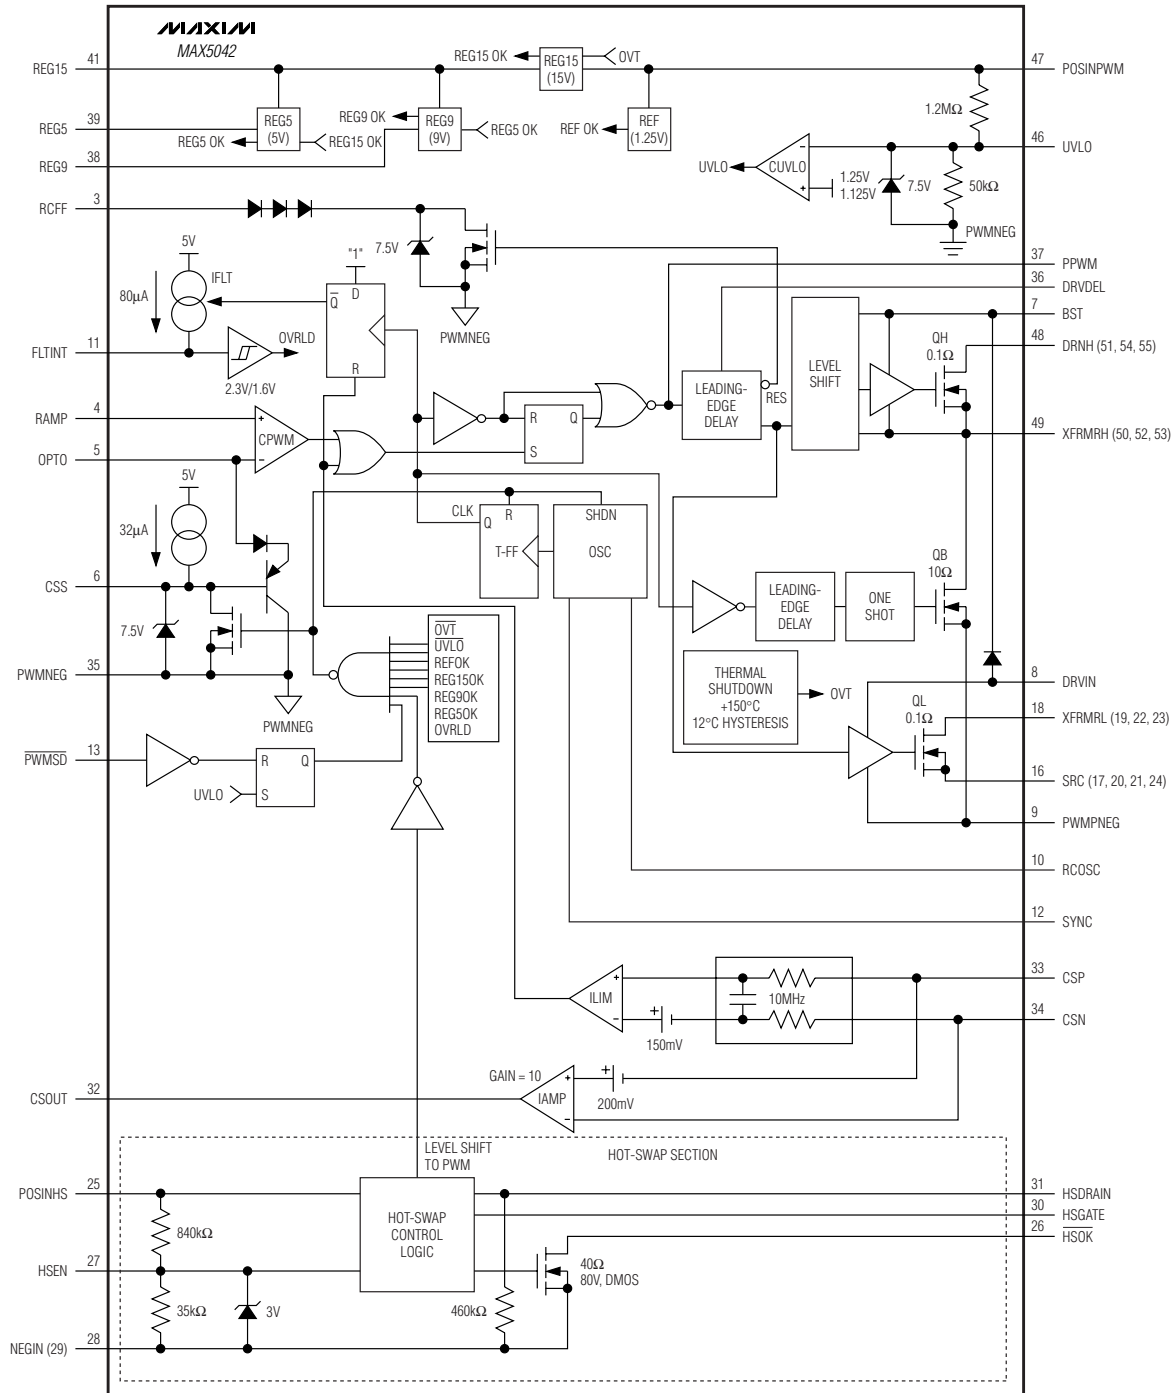

Figure 3. Block Diagram of the MAX5042 Power IC
Figures 3 and 4 show the block diagrams of the MAX5042 and MAX5043, respectively. The power-OK signals from the hot-swap section, regulators, thermal shutdown, and UVLO combine to generate the internal shutdown signal SHDN. When asserted, SHDN disables the comparators and oscillator. Deasserting SHDN releases the comparators and oscillators. The falling edge of SHDN is delayed allowing the internal signals to settle before the PWM pulses appear. During the time between the falling edge of SHDN and its delayed signal, the 10Ω internal MOSFET (QB) from XFRMRH to PWMPNEG turns on, charging the BST capacitor. After startup, this MOSFET also turns on for approximately 300ns at each half period to help charge the BST capacitor.
The ILIM comparator provides cycle-by-cycle current limiting with a typical threshold of 156mV. The fault integration circuit works by forcing an 80μA current out of FLTINT for one clock cycle every time the current-limit comparator (Figures 3 and 4, ILIM) trips. Use the following formula to calculate the approximate capacitance (C_{FLTINT}) needed for the desired shutdown time.